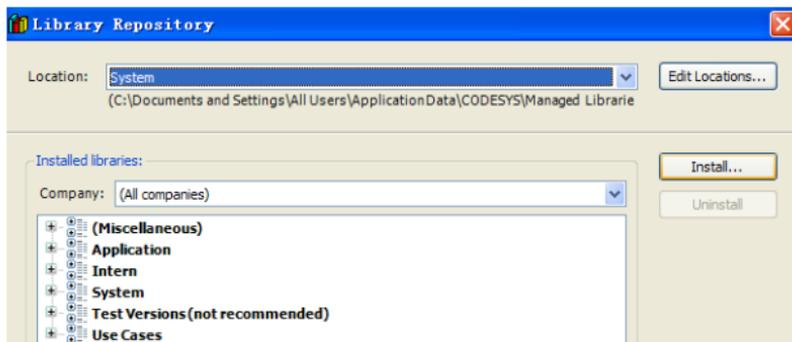

Figure 4-2
2. Click **Install** to install the library file *CmplNVT_V100.library*, as shown in Figure 4-2. Select **Library files** during the installation in the dialog box for choosing the file to be installed.